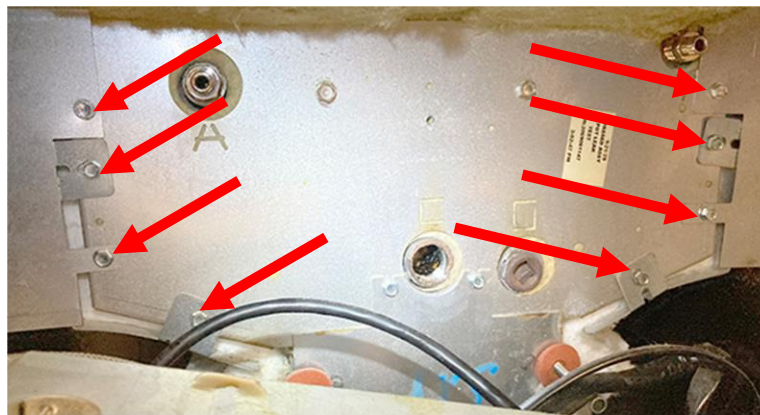

Figure 31
34. Remove the screws attaching the heat shields and the upper frypot insulation holder (see Figure 31).